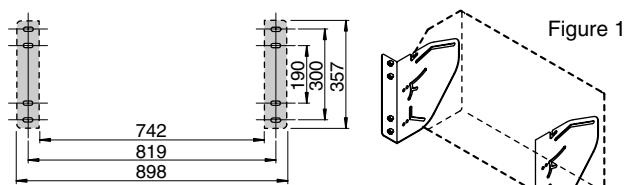

Figure 1
- When installing brackets as shown in Figure 1